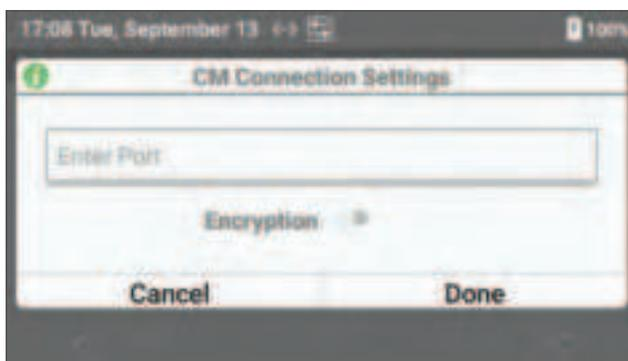

Figure 33: Configuring Port Number and Encryption Mode
- 2 In the dialog box (Figure 33), enter an unused **Port** number (e.g., 50000). For assistance, consult with the institution’s network administrator.